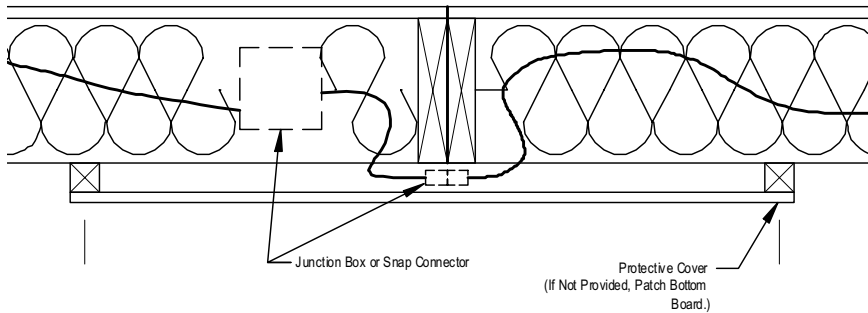

Figure 48. Floor electrical crossover wires with bumped-out access panel
- 2. Route wires.** Pass the wires through predrilled holes or notches in the rim joist or if there is a single bumped-out access panel as in **Figure 48**, then under the rim joists. If holes or notches have not been provided and there is no bumped-out access panel, drill maximum one-inch diameter hole(s) half-way up the rim joists on each home section, making sure the holes align and feed the wire through the hole.